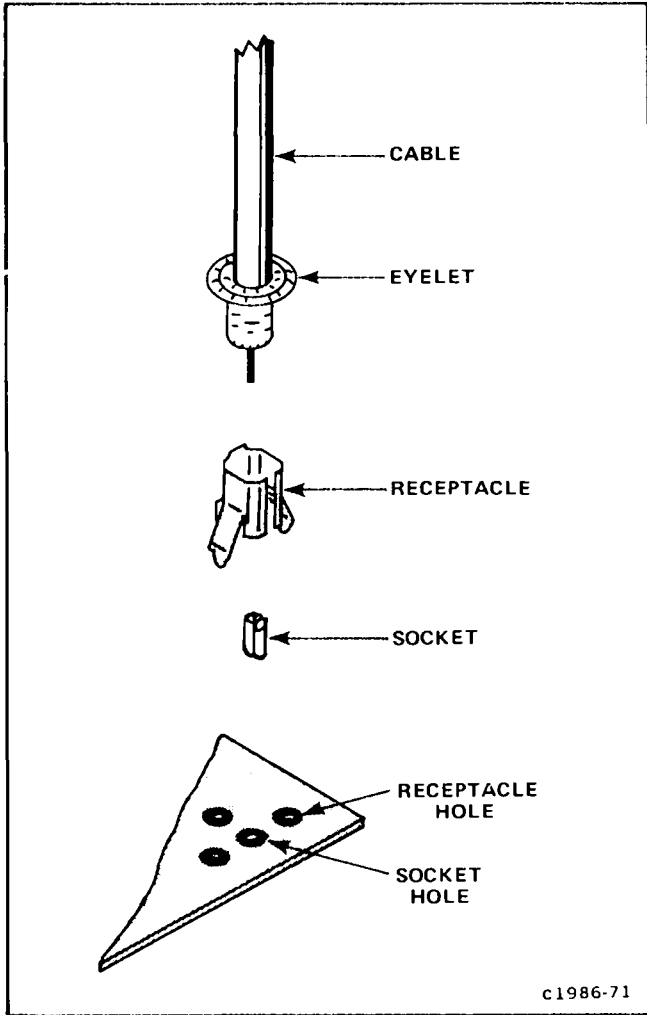

Fig. 4-7. Coaxial end-lead connector assembly.
4. Note wire color on single-conductor shielded cables (see Fig. 4-7 for identification) and connector to which each is attached.
Three methods of interconnection are used to connect the circuit boards with other boards and components. When the interconnection is made with a coaxial cable, a special end-lead connector plugs into a socket on the board (Fig. 4-7). When the interconnection is made with a wire lead, an end-lead connector is used which mates with the interconnecting pin soldered into the board (Fig. 4-4). When the interconnection is made between adjacent boards, an inter-board multi-pin connector is used (Fig. 4-3). The following information provides the removal and replacement procedure for the various types of interconnection methods.